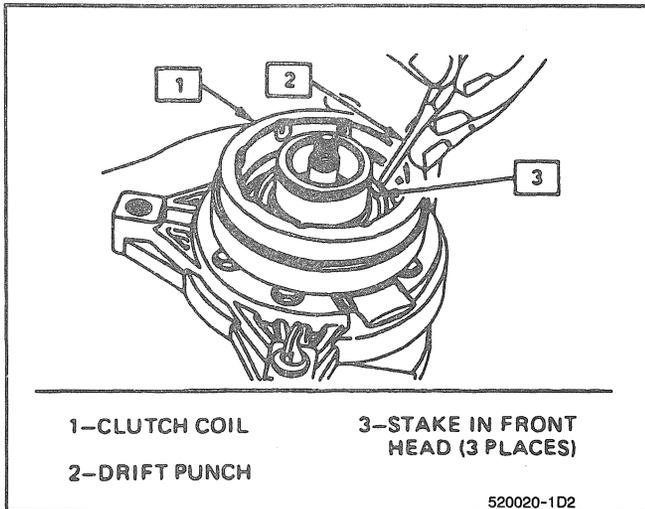

Fig. 16 Staking Clutch Coil to Front Head
- When coil is fully seated on the front head, use a 1/8" diameter drift punch and stake the front head at three places 120 degrees apart (Fig. 16), to ensure clutch coil remains in position.